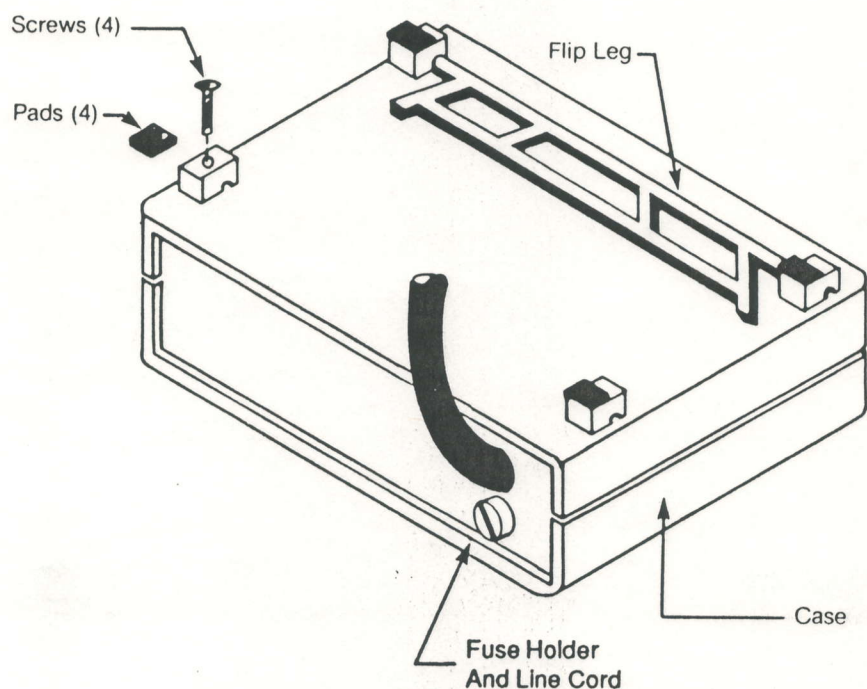

FIGURE 14. Case Disassembly and Assembly
To open the case, turn the unit upside down with the rubber feet facing up (see Figure 14). Remove the four pads from the plastic feet. Remove the screws from the center recess of each of the four feet.
2. Remove the top case half as outlined in the Case Disassembly procedure. (See Figure 14)